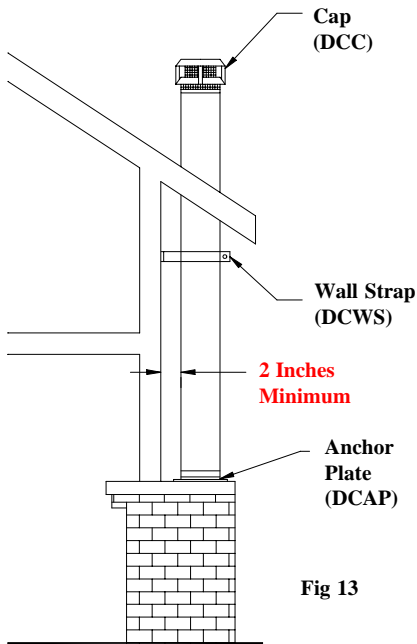
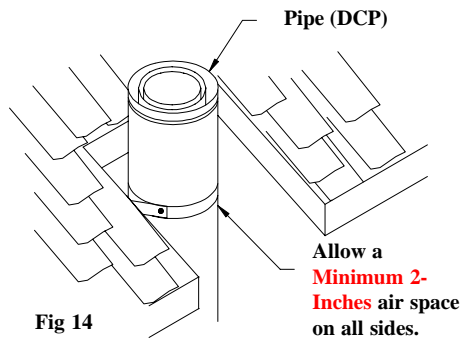
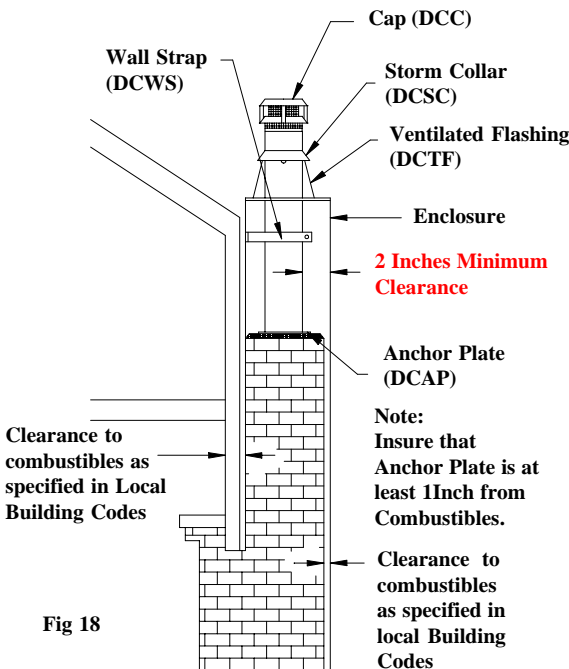

Fig 13
Fig 14
Fig 18
Assemble the **Chimney Sections** as described in Step 7 for ceiling supported installations in this instruction set. Use **Wall Bands** as shown in Fig. 13. Install one **Wall Band** at each 4 foot increment of rise along the wall. Slip the **Wall Bands** around the chimney, tighten the bolts, and fasten the **Bands** to the wall, using two 5/16 inch, 3-inch long lag screws. If it is necessary to go through eaves, insure that a **2 inch minimum clearance** is maintained, as shown in Fig.14. An enclosure such as shown in Fig. 18 is highly recommended, especially in cold climates. The chase should be framed with conventional lumber, lined with 1/2-inch sheetrock,
6. **Assemble Chimney Sections:** Assemble **Chimney Sections** as described in Step 3 for a masonry fireplace. Refer to Fig. 18